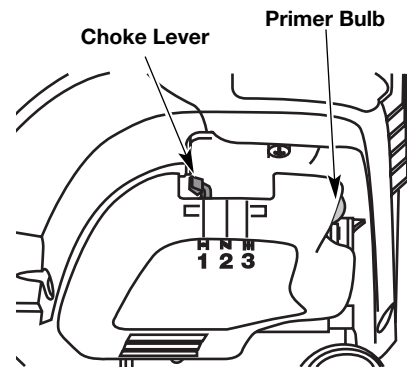

Fig. 8
**WARNING:** Avoid accidental starting. Make sure you are in the starting position when pulling the starter rope (Fig. 8). To avoid serious injury, the operator and unit must be in a stable position while starting.
3. Fully press and release the primer bulb 10 times, slowly. Some amount of **fuel should be visible in the primer bulb and fuel lines** (Fig. 8). If you can't see fuel in the bulb, press and release the bulb as many times as it takes before you can see fuel in it.
4. Place the choke lever in **Position 1** (Fig. 8).
6. Place the choke lever in **Position 2** (Fig. 8).
9. Place the choke lever in **Position 3** (Fig. 8). The unit is ready for use.